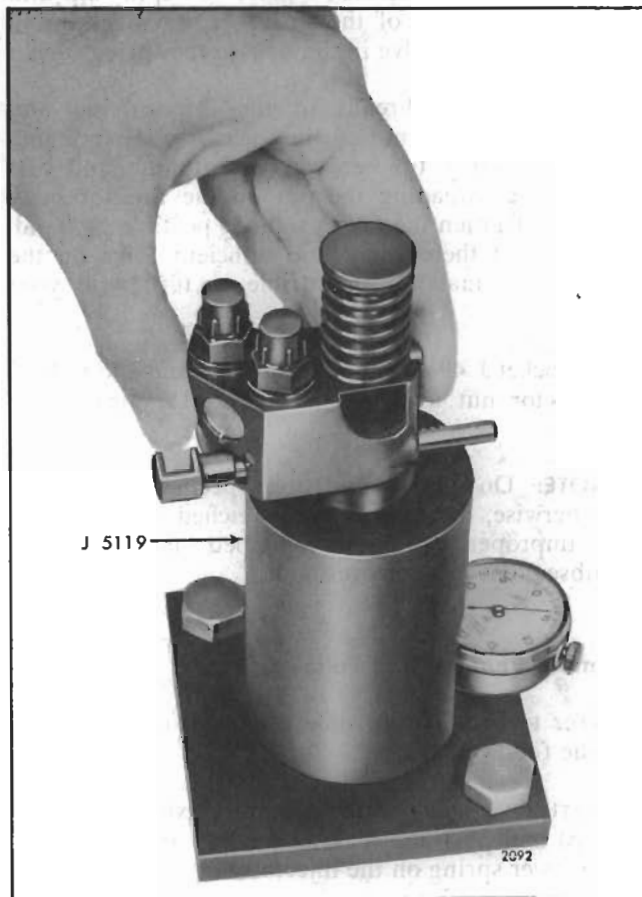

Fig. 42 - Checking Injector Spray Tip Concentricity
1. Place the injector in the concentricity gage J 5119 as shown in Fig. 42 and adjust the dial indicator to zero.